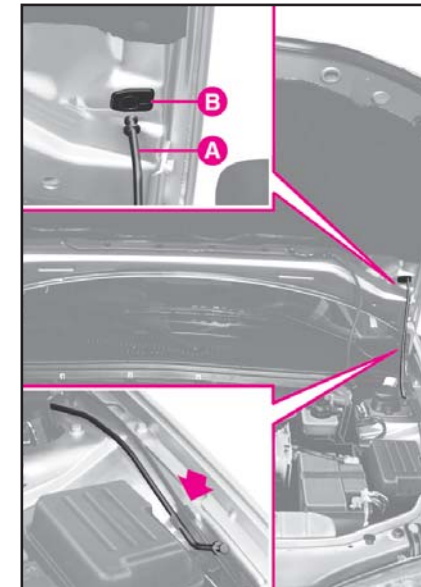

fig. 82
1) Hold the bonnet up with one hand and, with the other, remove rod **A-fig. 82** from recess **B** and replace it in its clip.